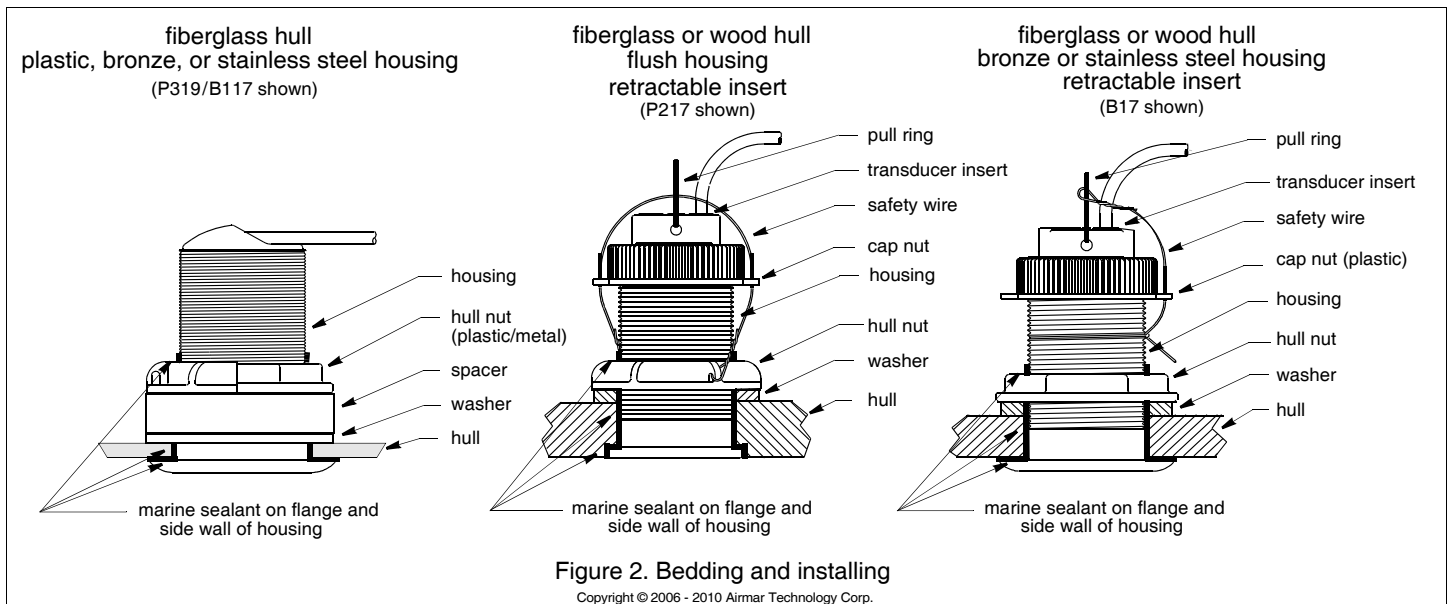

Figure 2. Bedding and installing
Apply a 2mm (1/16") thick layer of marine sealant around the flange of the housing that will contact the hull and up the sidewall of the housing (see Figure 2). The sealant must extend 6mm (1/4") higher than the combined thickness of the hull, washer, any spacer, and the hull nut. This will ensure there is sealant in the threads to seal the hull and to hold the hull nut securely in place.
2. From inside the hull, slide the washer onto the housing (see Figure 2).
2. Remove the transducer insert from the housing by removing the safety wire and unscrewing the cap nut (see Figure 2).